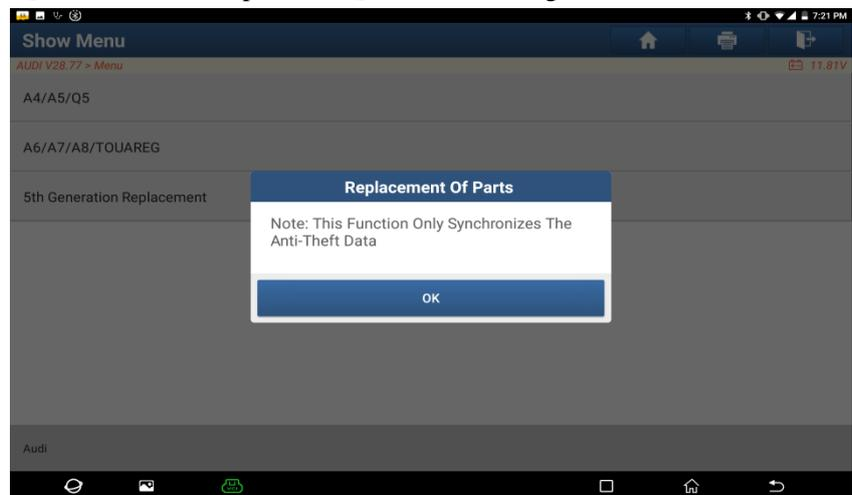

Figure 6
3.2.1.5 Click [5th Generation Replacement], as shown in Figure 6.